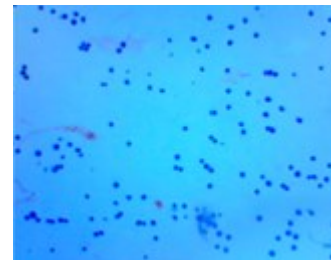

Figure 1: Example trypan blue stained fixed cells
- After fixation, the cells are permeabilized and should appear dead with viability stains. If using AO/PI stains, we suggest using the red (PI) channel to count to avoid the impact of any autofluorescence in the green (AO) channel.
- Examples of trypan blue stained fixed cells are shown below. High quality fixed samples have single distinct cells with $< 5\%$ cell aggregation and no debris. Higher levels of aggregation will lead to elevated doublets after sequencing. When quantifying fixed cells, it is critical to avoid counting cell debris to avoid overestimating the number of cells (Figure 1).